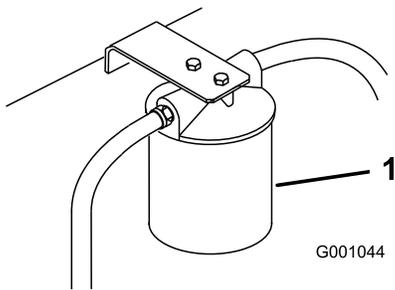

Figure 70
4. Place drain pan under filter, remove the old filter and wipe the filter adapter gasket surface clean (Figure 70).